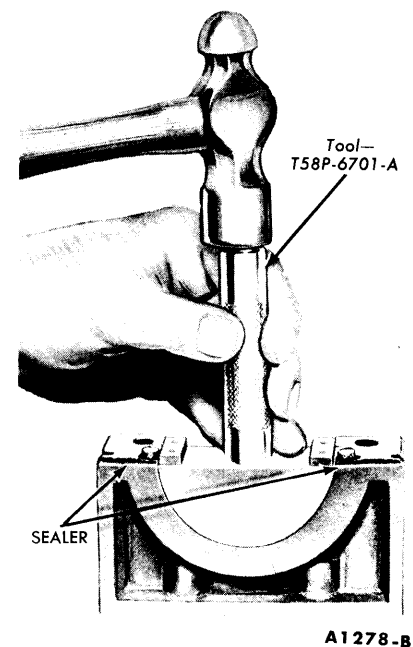

FIG. 40—Seal to Rear Bearing Cap Installation
16. Install a new rear journal oil seal in the rear main bearing cap (Fig. 40). After installation, cut the ends of the seals flush.
17. Apply a thin coating of oil-resistant sealer to the rear main bearing cap at the rear of the top mating surface (Fig. 40). **Do not apply sealer to the area forward of the side seal groove.** Install the rear main bearing cap. Torque the cap bolts to specifications.